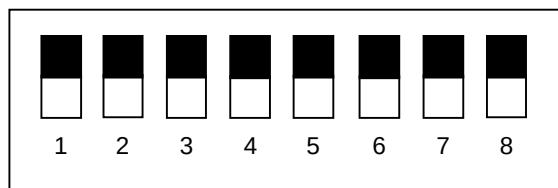

Figure 6.3.2 DIP switches (Being set for Standard setting)
- (2) Perform as the procedure shown below.
(3) Set the DIP switch No.4 as shown in Figure 6.3.2.